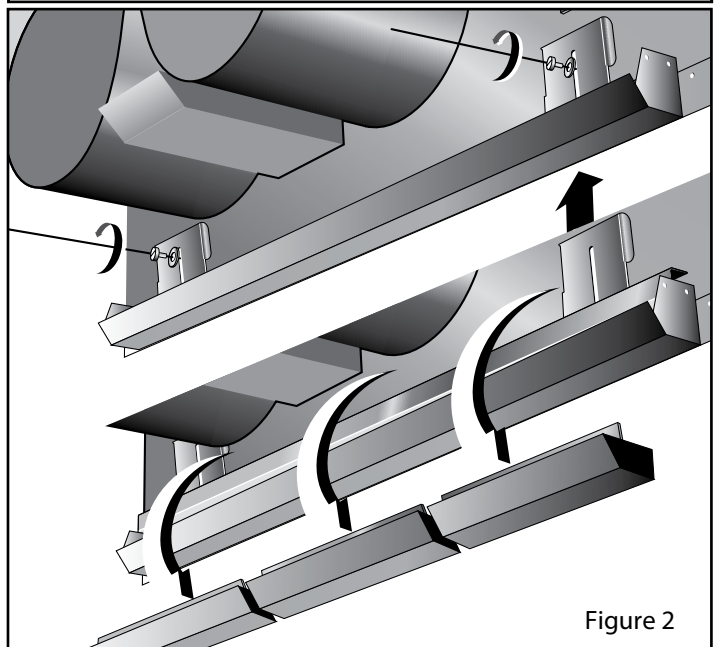

Figure 2
- Unscrews the knobs that fix the drip trays holding brackets. **Figure 2**
- Grasp the drip tray and carefully lift it up and out of the hood track. **Figure 2.**